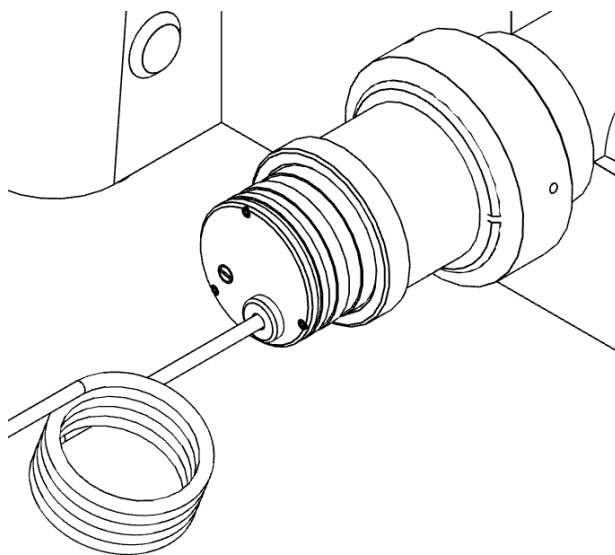

Fig. 5
- 7) Slide the focus motor into the adapter as far as it will go and, while applying gentle pressure to the motor, tighten clamp screw. This will hold the motor in place. The rubber drive bush on the end of the motor spindle should now be pressing against the end surface of the fine focus control knob. This can be confirmed by manually rotating the exposed fine focus knob on the opposite side of the microscope and feeling for the resistance caused by the detent positions of the stepper motor as it rotates. This will not cause any damage to the focus motor. The focus motor should appear like in Figure 5.